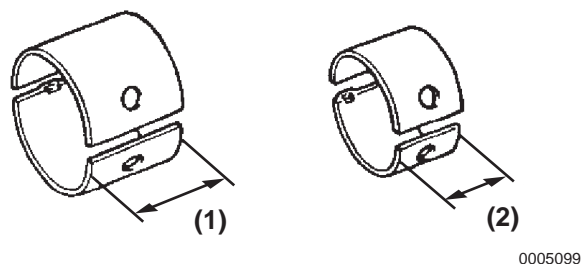

Figure 5-70
Note: There are two types of camshaft bearings, one having a 20 mm (0.787 in.) (**Figure 5-70, (2)**) width and the other, 29 mm (0.142 in.) (**Figure 5-70, (1)**).